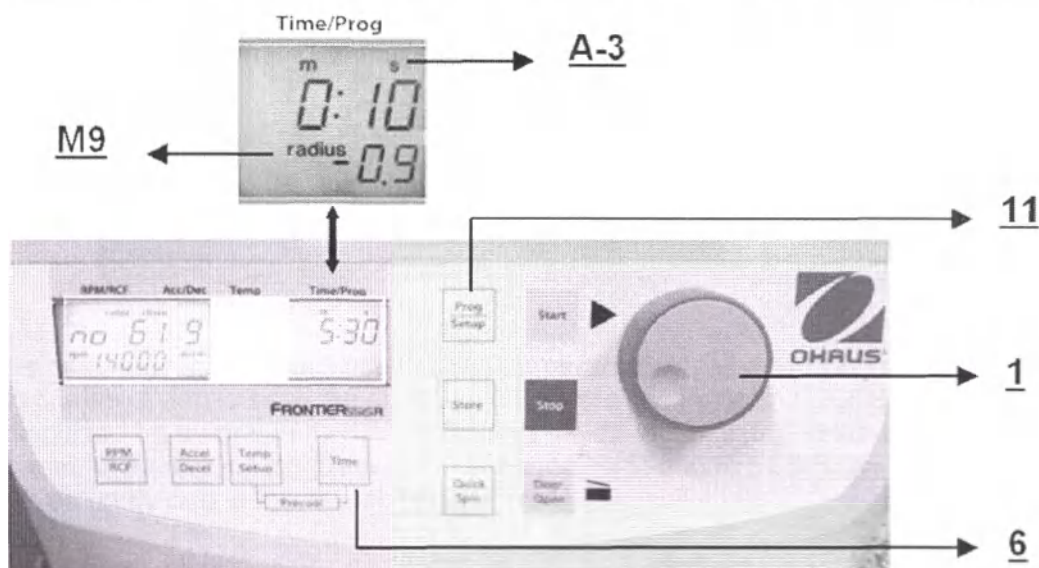

Fig. 21
Close the centrifuge lid, then press the keys **Time** (6) and **Prog/Setup** (11) simultaneously and hold them down (see Fig. 21).